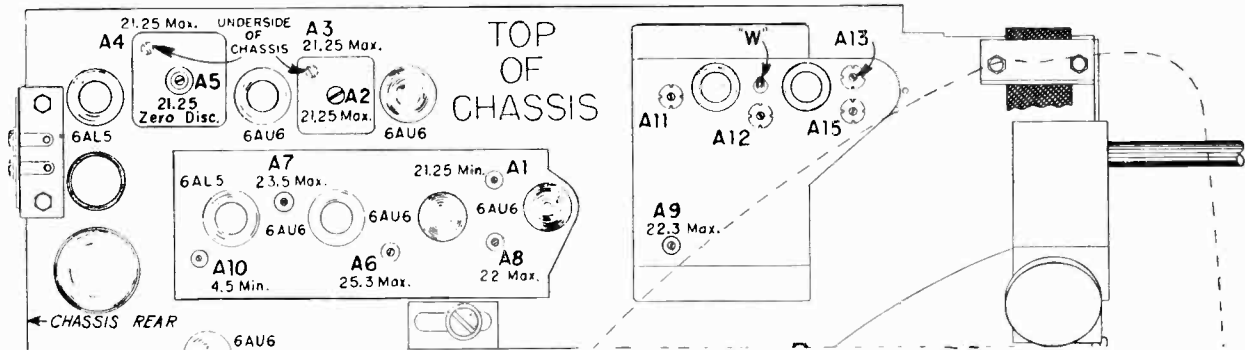

Figure 27. Alignment Locations and Frequencies, with late production Video IF strip.
- Refer to figures 27, 28 and 29 for alignment adjustment and test point locations.
\*\* See figures 27 and 28 for alternate locations.
- Connect oscilloscope through 10,000 ohm resistor to point "W" (figure 27). Keep oscilloscope leads away from chassis.